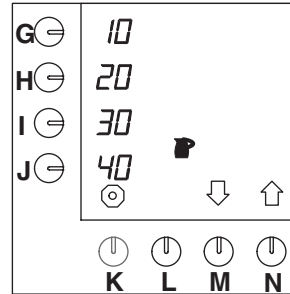

Fig. 27 Adjusting pre-programmed selection keys for jugs
- Press selection key (N.)↑ until fig.27 appears on the display.